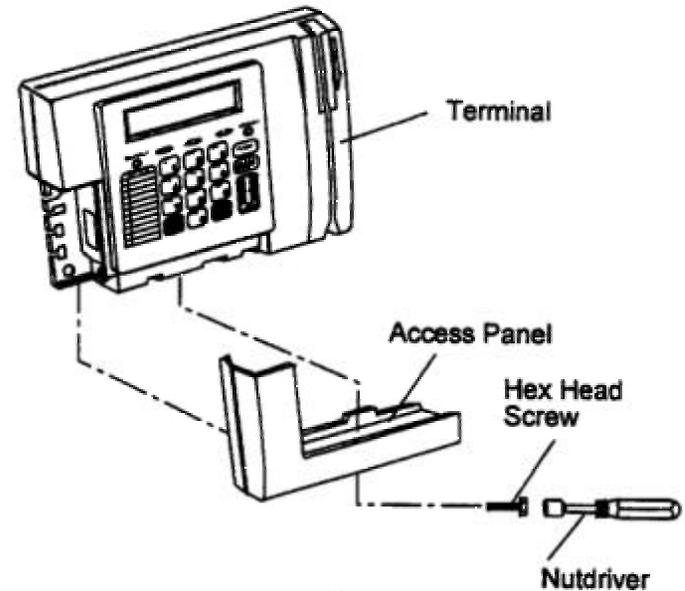

Figure 21: Access Panel Installation
1. **Install the access panel on the terminal. Refer to Figure 21.**